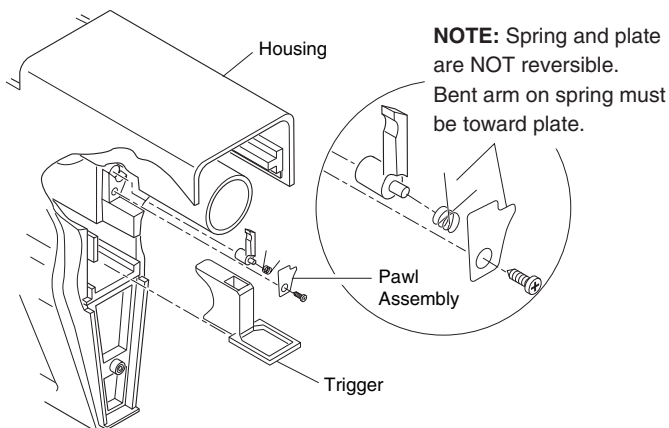

Figure 17 - Replacing Trigger and Pawl Assembly
1. Assemble pawl components and screw into housing using a phillips head screwdriver (see Figure 17).
2. Slide trigger into housing (see Figure 17).